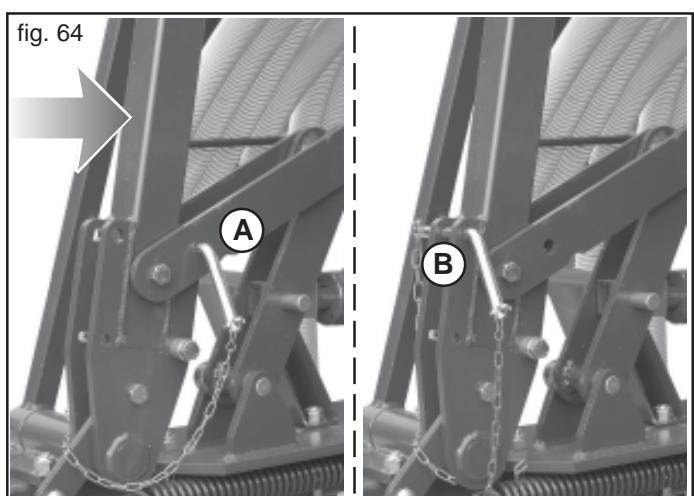

fig. 64
Before operating the hydraulic system of the row marker, apply light pressure with your hand on the row marker arm in the direction of the arrow (Fig. 64), unhook the safety devices on both the arms (A Fig. 64), and then position them as shown in Figure 64 (B). For travel on the road, lock the row marker arms in a vertical position with the safety devices (A Fig. 64).
- Release the safety devices (Fig. 64) and open the row marker arms manually until they sit on the ground.